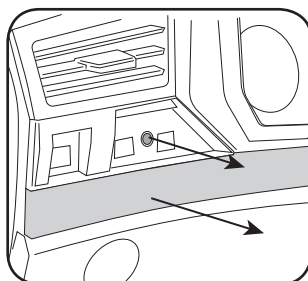

Fig. 1.2
2. Remove the panel directly below the previous one, then remove the single T20 Torx screw behind it. (Fig. 1.2)